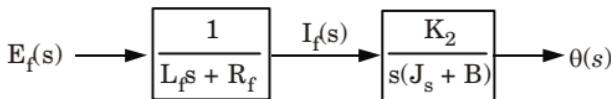

Fig. 1.7.2.
8. Block diagram is shown in Fig. 1.7.2.